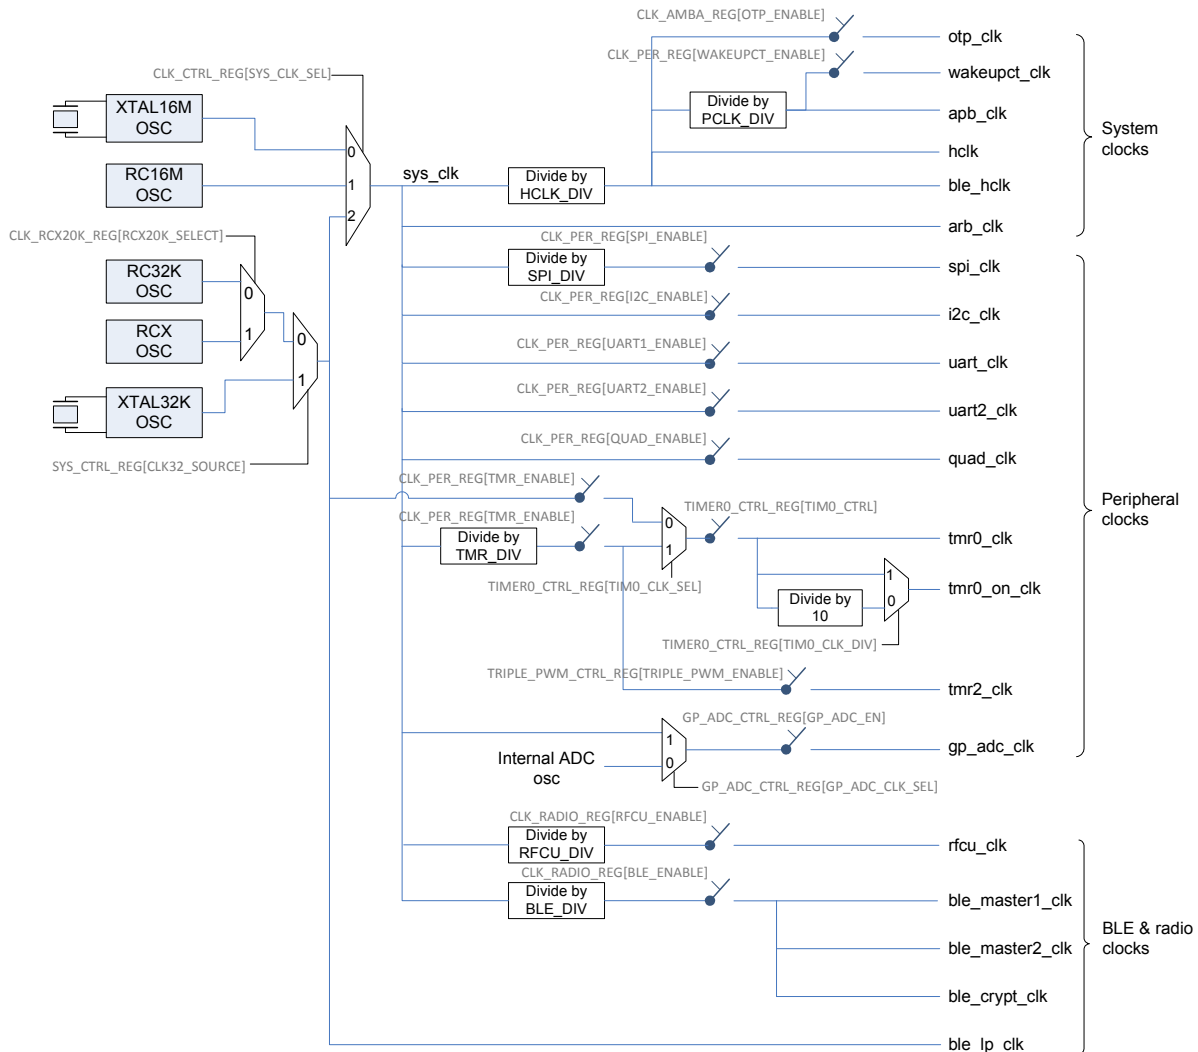

Figure 17: Clock Generation Block Diagram
The clock names depicted in Figure 17 are explained in the following Table:
- When the SPI block is set to Slave mode, then the spi\_clk (as depicted in Figure 17) should be at least 4x the clock frequency provided by the external SPI Master. This is required for proper sampling of the data line.